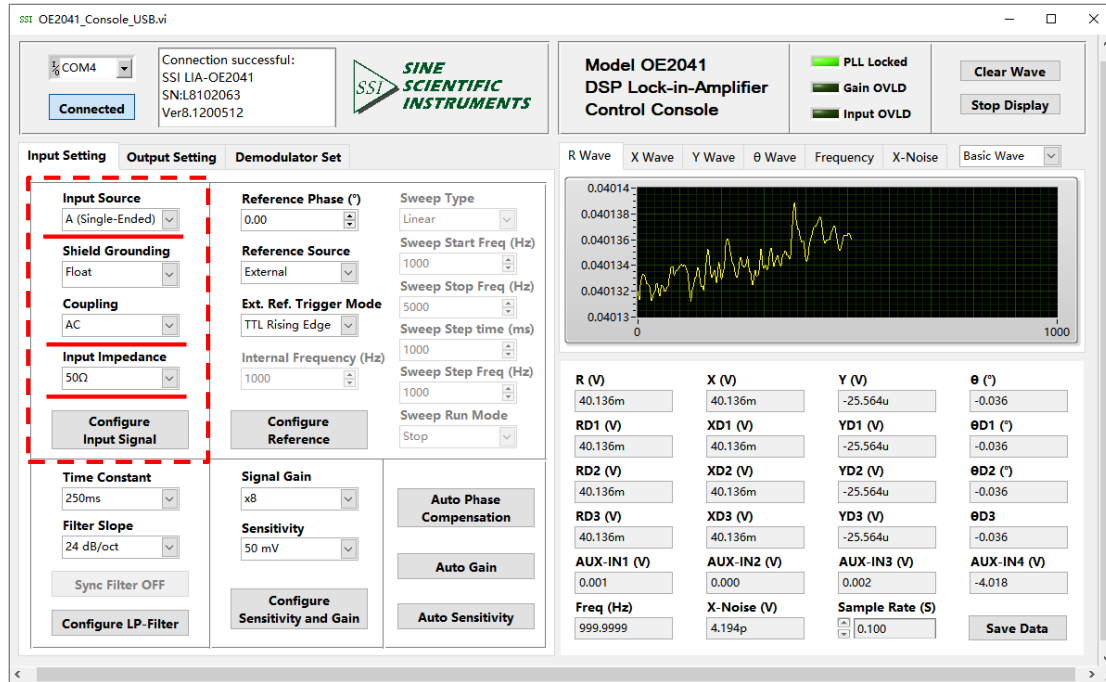

Fig.77 Input Configuration
1. According to Table 14, choose the following options in "Input Setting", including "Input Source", "Coupling" and "Input Impedance" with other options in default, as is shown in Fig.77. At last, click the button "Configure Input Signal" to finish the configurations.